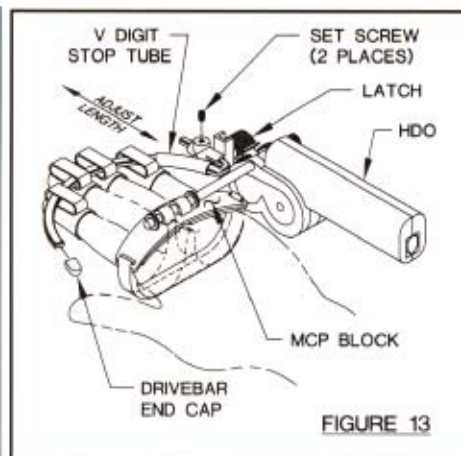

FIGURE 13
- 5 Remove drivebar end cap and insert curved drivebar through finger tip attachments beginning at V digit see **Figure 13**. Open latch and insert curved drivebar support into socket of HDO. Close latch to lock snap shut. Reattach drivebar end cap.
NOTE: If V digit stop tube is too long: remove tube, trim to suit and reassemble see **Figure 13**.